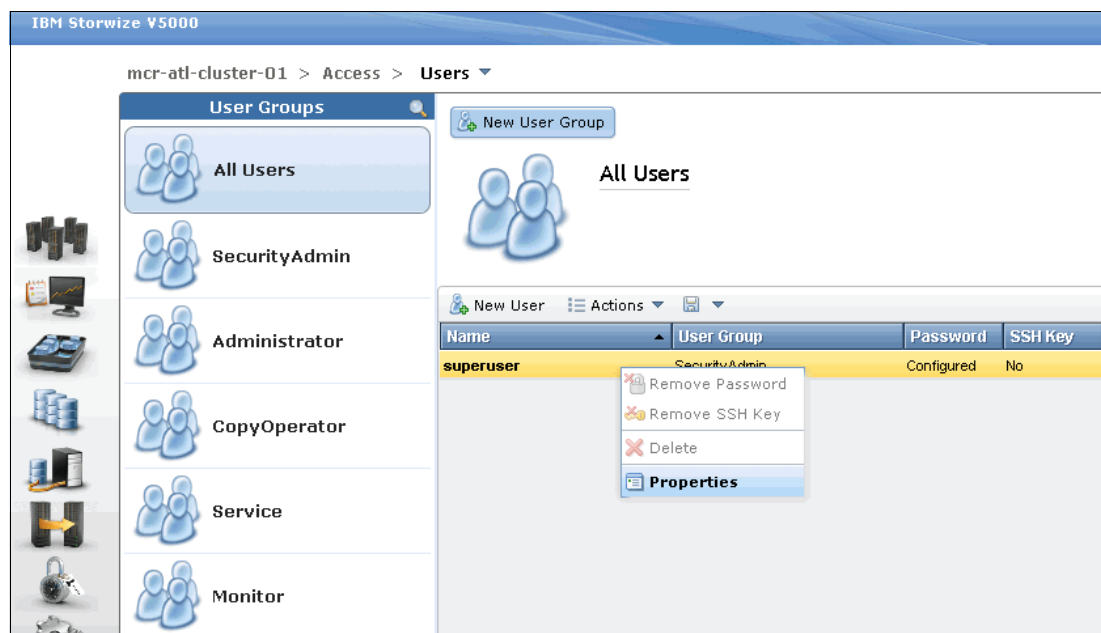

Figure A-7 Superuser properties
2. Right-click the user for which you want to upload the key and click **Properties**, as shown in Figure A-7.